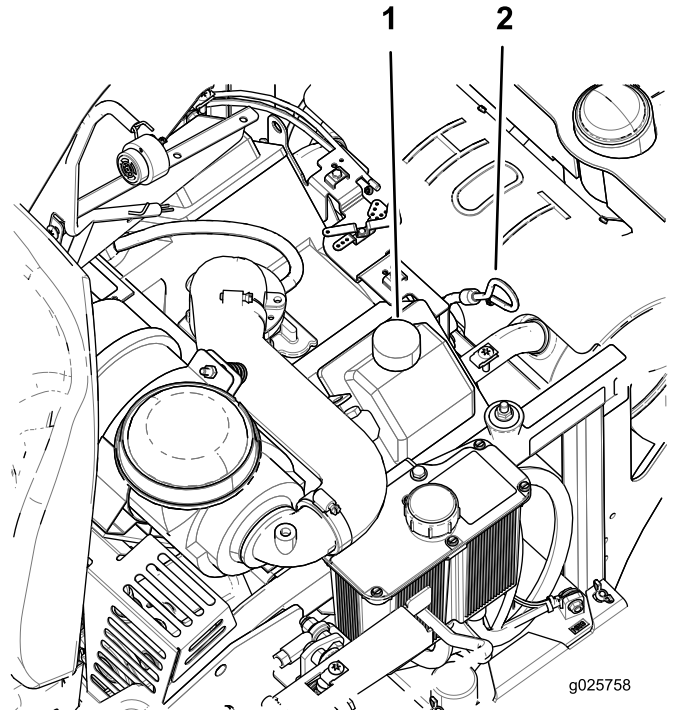

Figure 33
5. Clean the area around the dipstick (Figure 33).
9. If the oil level is low, wipe off the area around the oil-fill cap, remove cap, and fill to the FULL mark on the dipstick (Figure 33). Do not overfill.
4. Slowly pour approximately 80% of the specified oil into the filler tube and slowly add the additional oil to bring it to the FULL mark on the dipstick (Figure 33).
5. Start the engine and drive to a flat area. Check the oil level again (Figure 33).